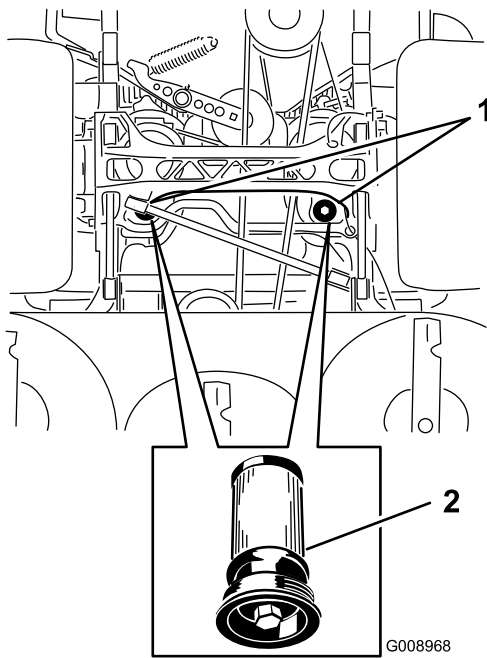

Figure 92
5. Place a drain pan under the filter, remove the old filter and wipe the surface clean (Figure 92).
6. Apply a thin coat of hydraulic oil to the rubber gasket on the replacement filter (Figure 92).